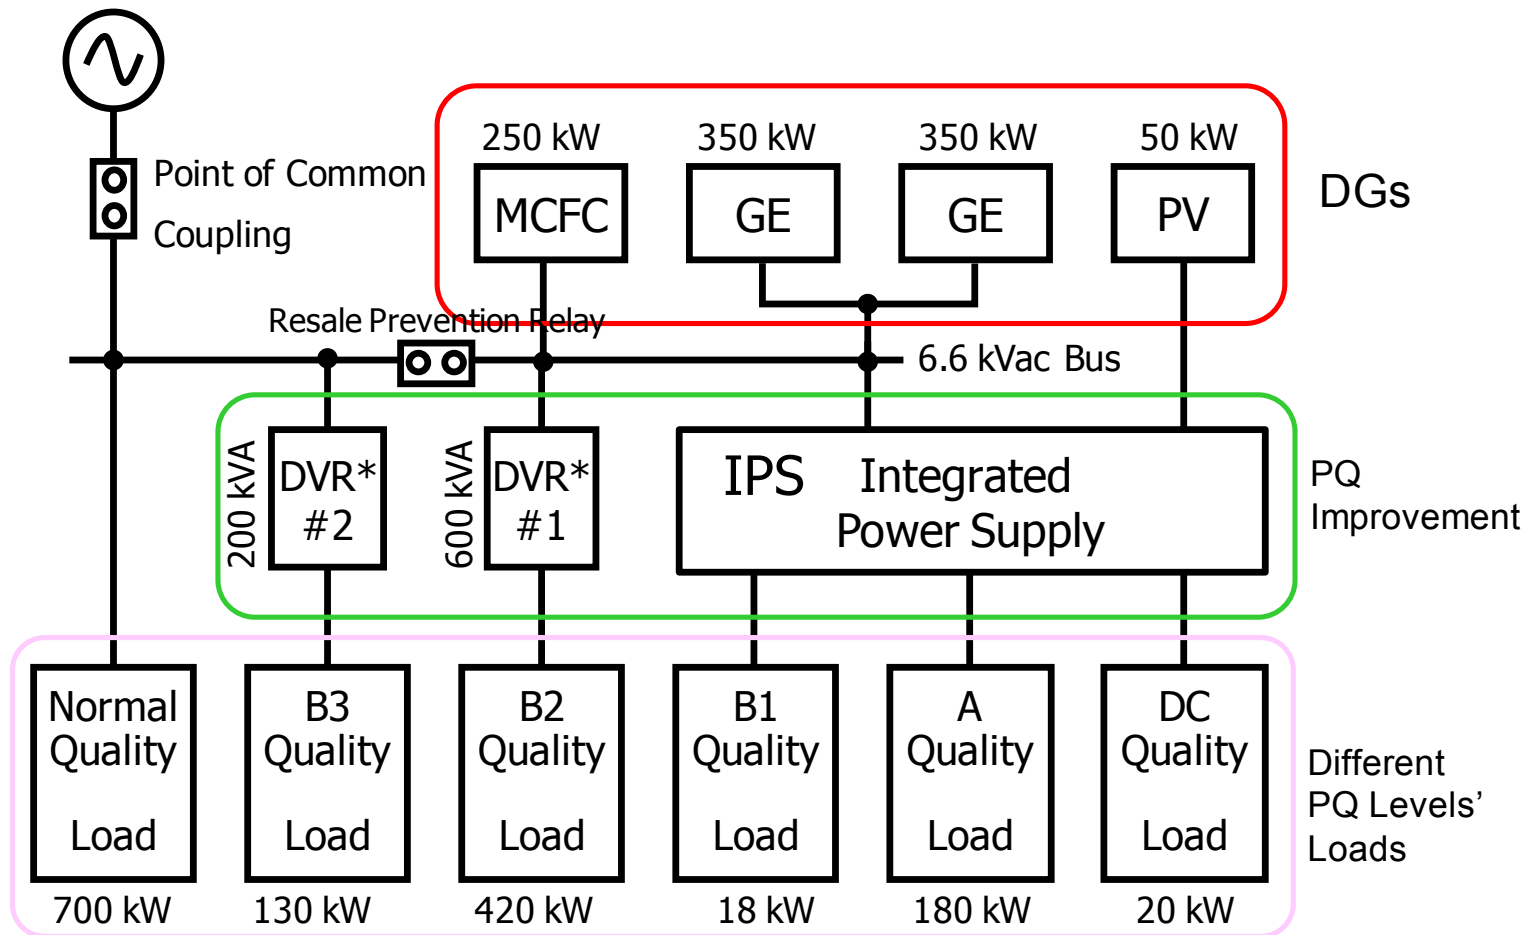

Figure 3 System Configuration of MPQM
The PCC between the MPQM and the grid is located in the blue area. Power from the grid cannot be transmitted to the red area due to rules on the “resale of electricity” in the interconnection agreement with the local utility (Tohoku Electric Power Co.). Therefore, a “resale prevention” relay is installed to control the power flow, as shown in Fig. 3.
The system configuration of the MPQM is shown in Fig. 3. This diagram shows four classes of power quality: (1) A-Class, (2) B-Class, (3) Normal Class and (4) DC. B-CLASS is divided into three classes (B1, B2 and B3). DC has power quality equivalent to A-CLASS.